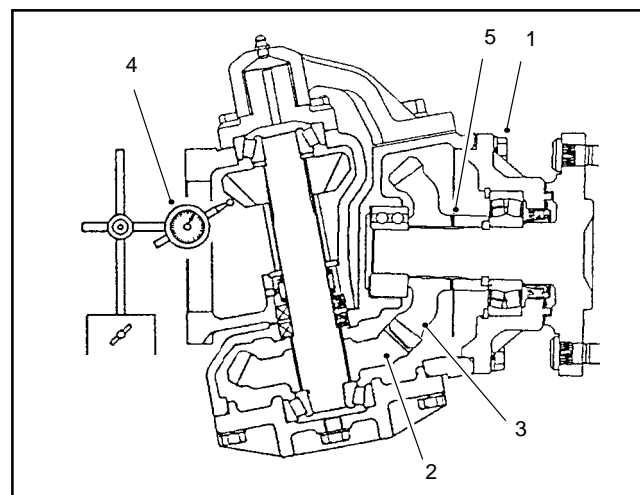

Figure 21
9. Remove the bevel gear case/axle case assembly from the axle support. Coat a new O-ring with grease and temporarily install the axle cover assembly. Position a dial indicator at the tooth's center. Prevent the axle from turning and measure the lower bevel gear to axle gear backlash (Fig. 21).